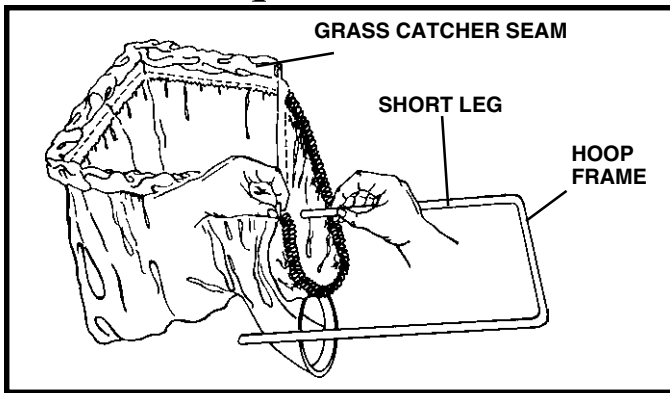

FIG. 3
- Insert the short leg of the hoop frame into the seam sewn in the grass catcher as shown in Fig. 3.